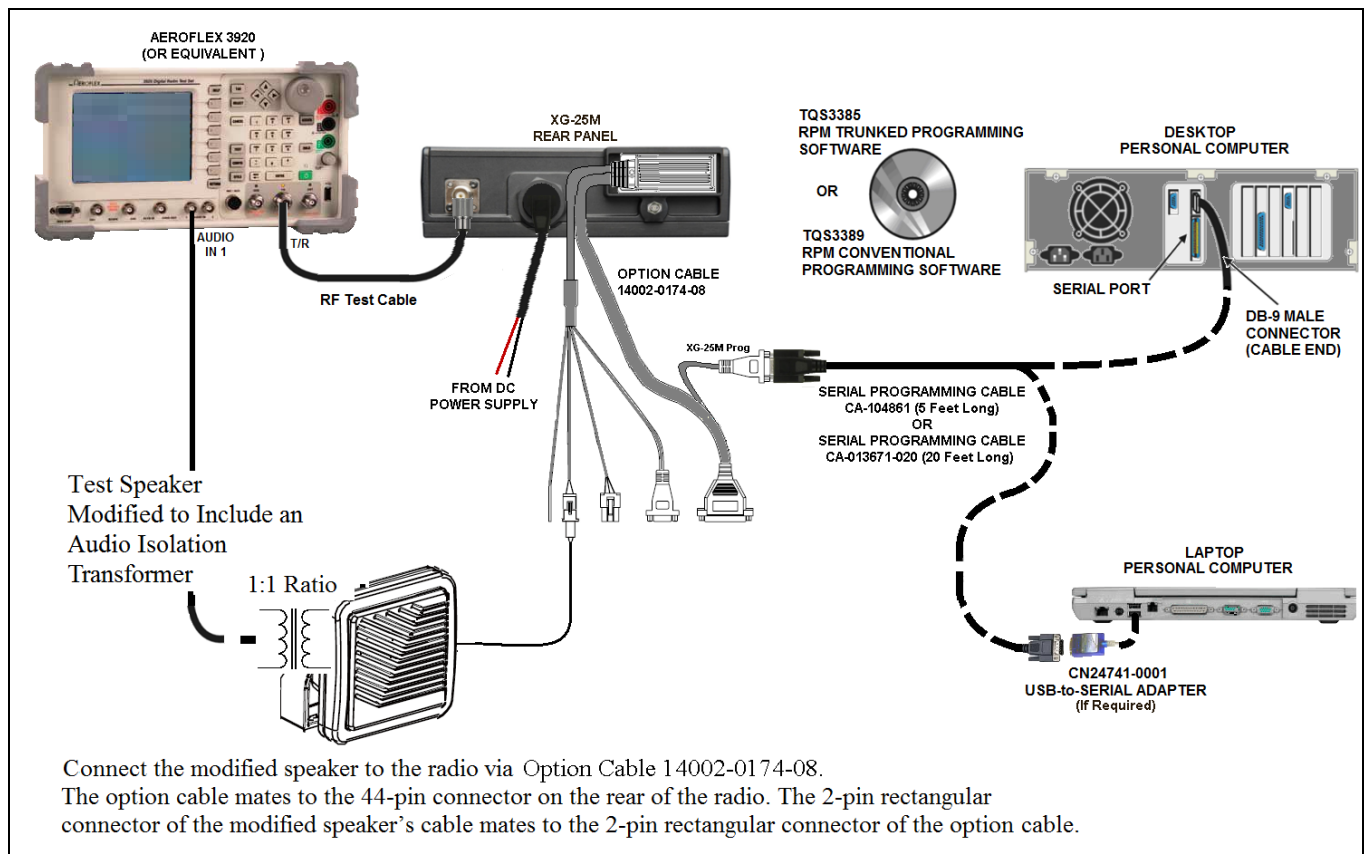

Figure 12-1: Test Equipment Connections for Radio Alignment
1. Setup and power-up the radio and test equipment as described in the Tx Frequency Test procedure, Section 12.4.4.1 (do steps 1 through 7 of that procedure). Also see Figure 12-1.
10. Using a serial programming cable, connect the radio to the PC with the RPM programming software. See Figure 12-1 on page 75.